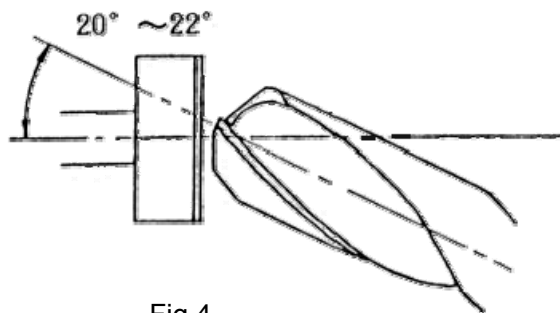
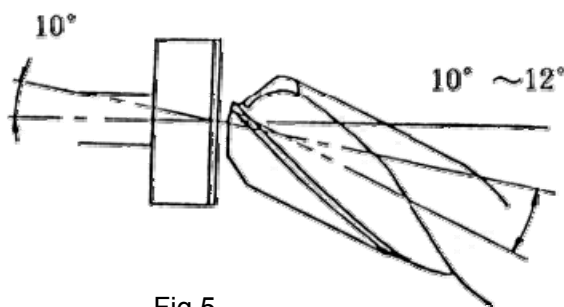

Fig.4
Fig.5
- Incline the drill (work head) to  $20^\circ$ - $22^\circ$  for the secondary relief grinding (**Fig.4**).
- If it is difficult to deviate the drill angle, incline the wheel  $10^\circ$  as shown in **Fig.5**.
- The swivel angle of the drill for **Fig.4** and **Fig.5** is  $20^\circ$ , and the point angle at  $140^\circ$  (identical as **Fig.2**).